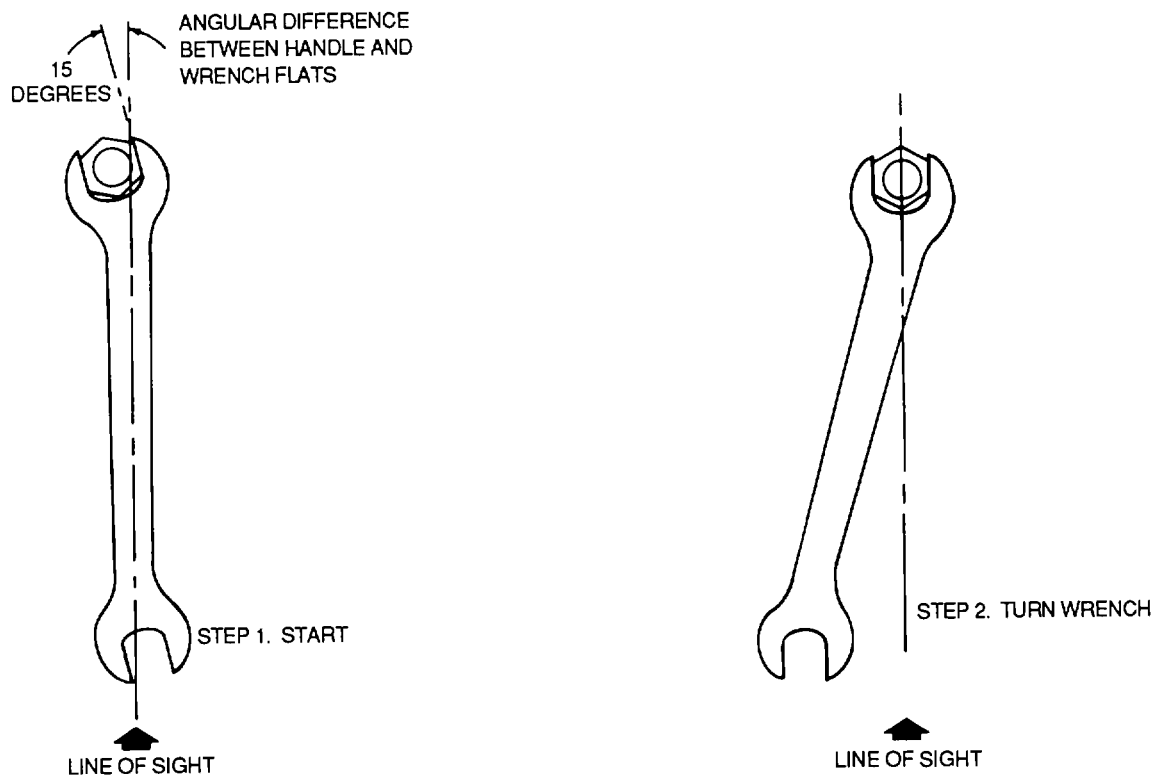
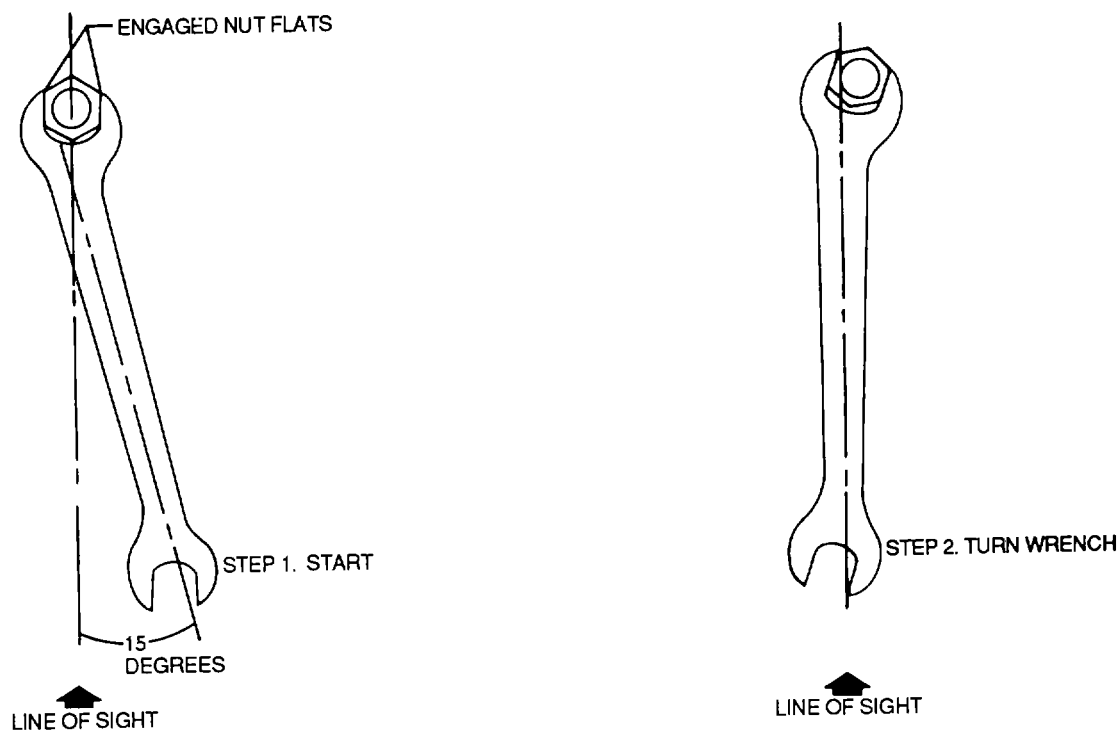

Figure 8-24. Tightening to 15-Degree Wrench Arc
Figure 8-25. Alternate Method for Tightening to 15-Degree Wrench Arc
(2) Tightening to 15-degree wrench arc. Proceed as follows:
- (b) With wrench still positioned on nut, establish a line of sight using wrench handle, as shown in figure 8-24.
- (d) Turn wrench until flats on nut (engaged by wrench) are aligned with line of sight established by handle in figure 8-24.
(3) Alternate method for tightening to 15-degree wrench arc. Proceed as follows:
- (b) With wrench still positioned on nut, use engaged nut flats to establish a line of sight, as shown in figure 8-25.